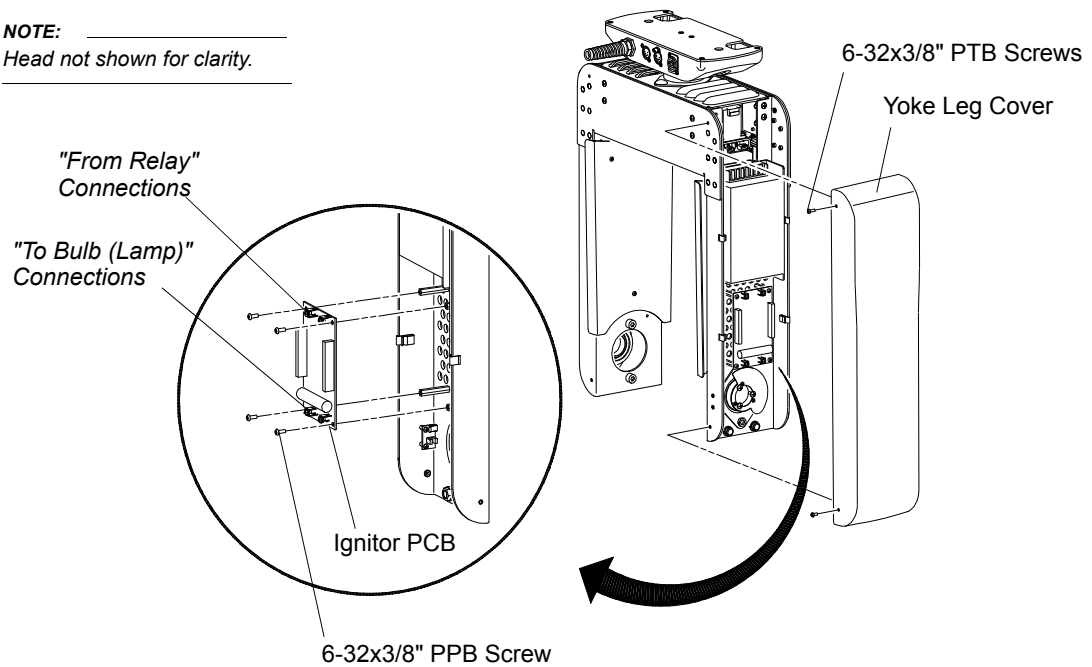

Figure 2-21: Ignitor PCB Replacement
- Step 2. Remove yoke leg cover (side without menu display) by removing four 6-32x3/8" PTB screws as shown in Figure 2-21.
Note: Make sure and orient ignitor properly (as shown in Figure 2-21).